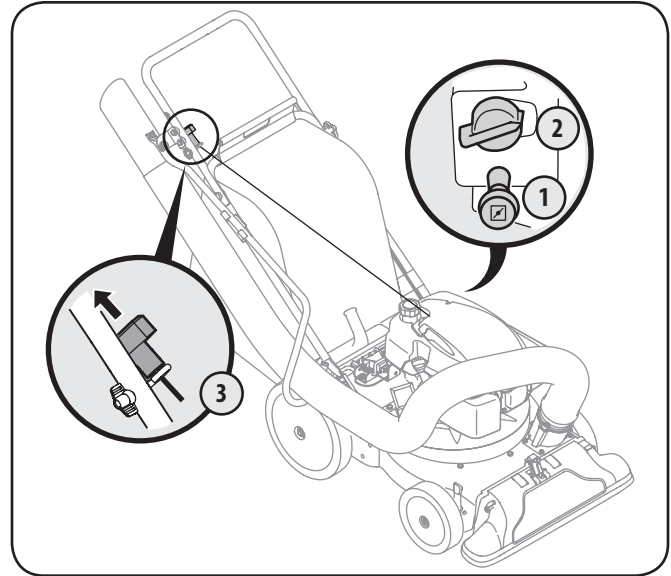

Figure 9-3
1. Pull out the choke knob located on the engine. See Figure 9-3 inset.
3. Pull the starter grip lightly until resistance is felt, then pull rapidly to overcome compression, prevent kickback and start engine. See Figure 9-3. If engine does not start after ten seconds of repeated pulls, wait a few minutes and repeat.